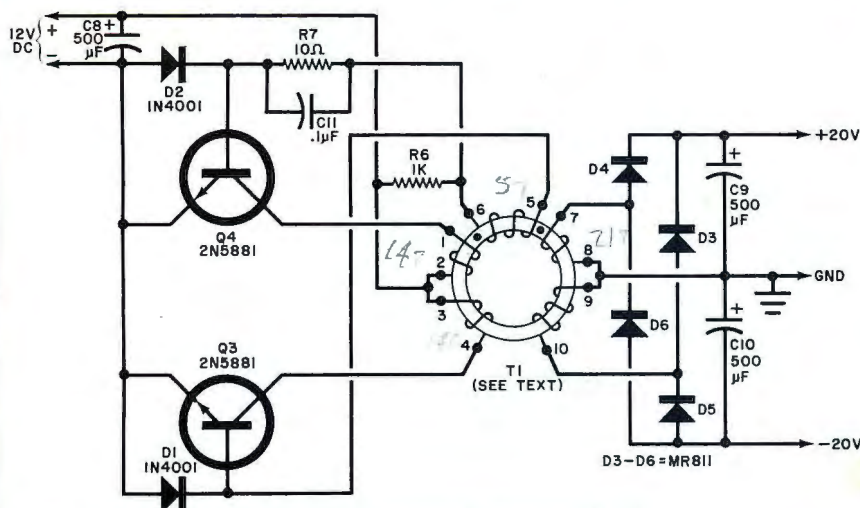

Fig. 1. Frequency of dc-to-dc converter is governed by T1.
**About the Circuit.** The dc-to-dc converter shown in Fig. 1 is a fairly standard design. Its frequency of operation is governed by saturating-core transformer *T1*. The winding (points 5 and 6) connected to the bases of transistors *Q3* and *Q4* is phased to provide positive feedback, which sustains oscillations. Thus a 12-volt, 20,000-Hz square wave is applied to the primary